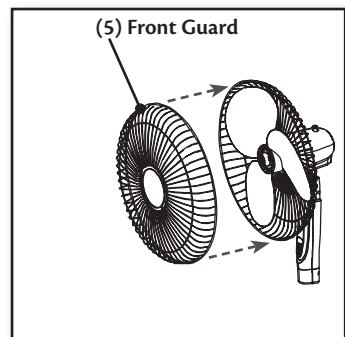

Figure 6.
8. Set the Front Gill (5) into the notch on the bottom of the Rear Grill (3) So the Hunter logo is facing rightside up. **Figure 6.**